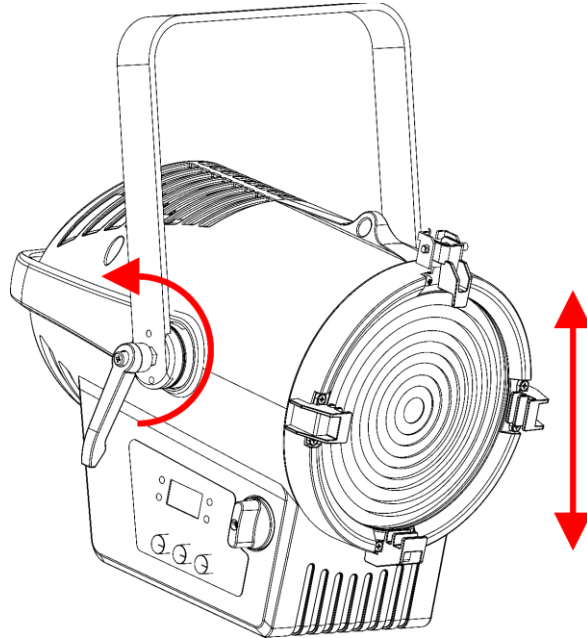

Fig. 08
- 01) Turn the **adjustment screws (03)** counterclockwise to release them.
- 02) Tilt the device to the desired angle (see Fig. 08).
- 03) Turn the **adjustment screws (03)** clockwise to tighten them. Make sure that the device cannot move freely after the **adjustment screws (03)** are tightened.